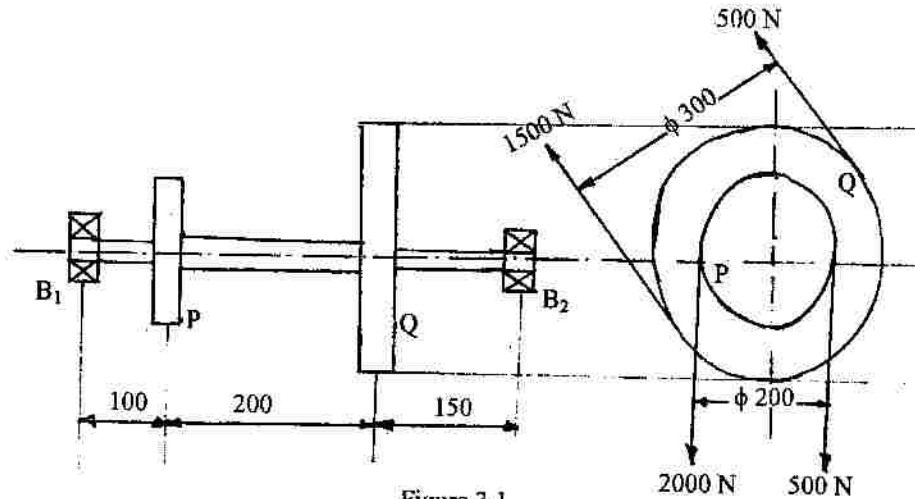

Figure 3.1
- (c) A transmission shaft, supporting two pulleys P and Q and mounted between two bearings  $B_1$  and  $B_2$  as shown in figure 3.1. Power is transmitted from Pulley P to Q. The shaft is made of plain carbon steel 45C8 having ultimate tensile strength and yield point strength are  $600 \text{ N/mm}^2$  and  $380 \text{ N/mm}^2$  respectively. The pulleys are keyed to the shaft. Determine the shaft diameter using the ASME code if,  $K_b = 1.5$  and  $K_t = 1.0$